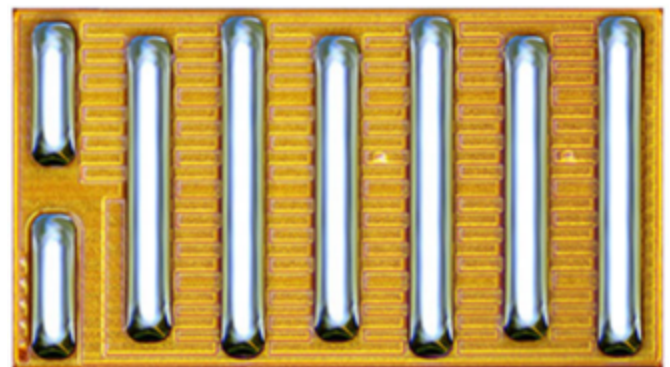

Figure 1: The 80 volt, 60 A EPC2065 GaN FET is a passivated die device with integral solder bars. (Image source: EPC)
An excellent example of a lower-power GaN FET is the EPC2065. It has a drain-source voltage (VDS) of 80 volts, a drain current (ID) of 60 amperes (A), and an  $R_{DS(ON)}$  maximum of 3.6 milliohms (mΩ). It is supplied only in passivated die form with solder bars and measures  $3.5 \times 1.95$  millimeters (mm) (Figure 1).